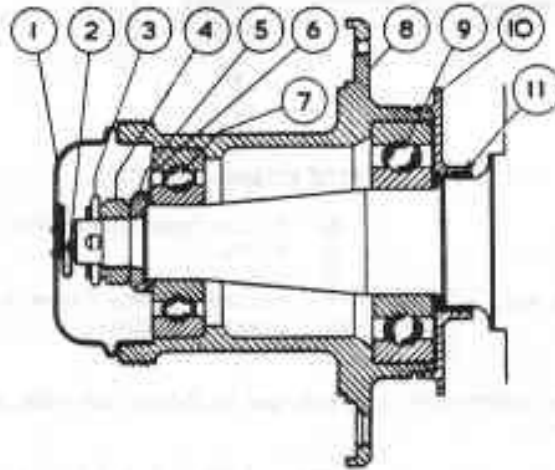
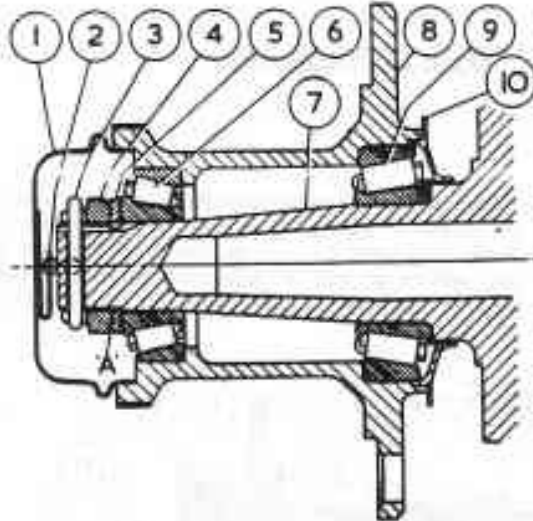

FIG. K1. HUB WITH BALL BEARING.
FIG. K2. HUB WITH ROLLER BEARINGS
Early series cars incorporated two single row journal ball bearings as shown in Fig. K1. As from Silver Wraith WME-1, Silver Dawn SCA-1 and Bentley B-1-GT, these ball bearings were replaced by two roller bearings as shown in Fig. K2. At the same time the method of wheel balancing was also changed, i.e., from a series of weighting washers in four fixed positions, to movable weights in variable positions.
- 2a. Later type - remove sealing strip and split pin (3, Fig. K2) the nut (4) and washer (5), and withdraw hub by hand.
3. To remove ball bearings from front hub, use two levers under lip of grease retaining cover (10, Fig. K1) and squarely prise off. Remove cover, this has an interference fit of .0023" to .0053". Covers have handed Acme threads and are clearly marked for re-assembly.
1. Refit hub and brake drum assembly, ensure this is driven fully home, inner face of inner ball bearing contacts against distance piece (11. Fig. K1).